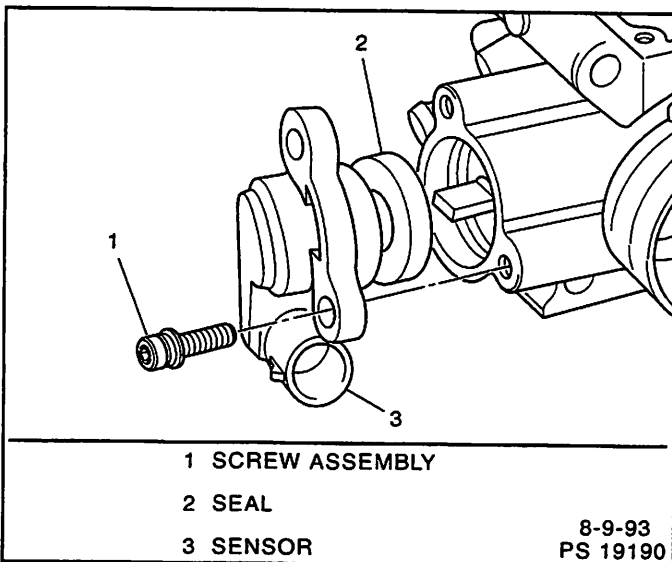

Figure 2-14 - Throttle Position (TP) Sensor
Throttle Position (TP) Sensor*Figures 2-14***Remove or Disconnect**
1. TP sensor seal over throttle shaft as shown in Figure 2-14.